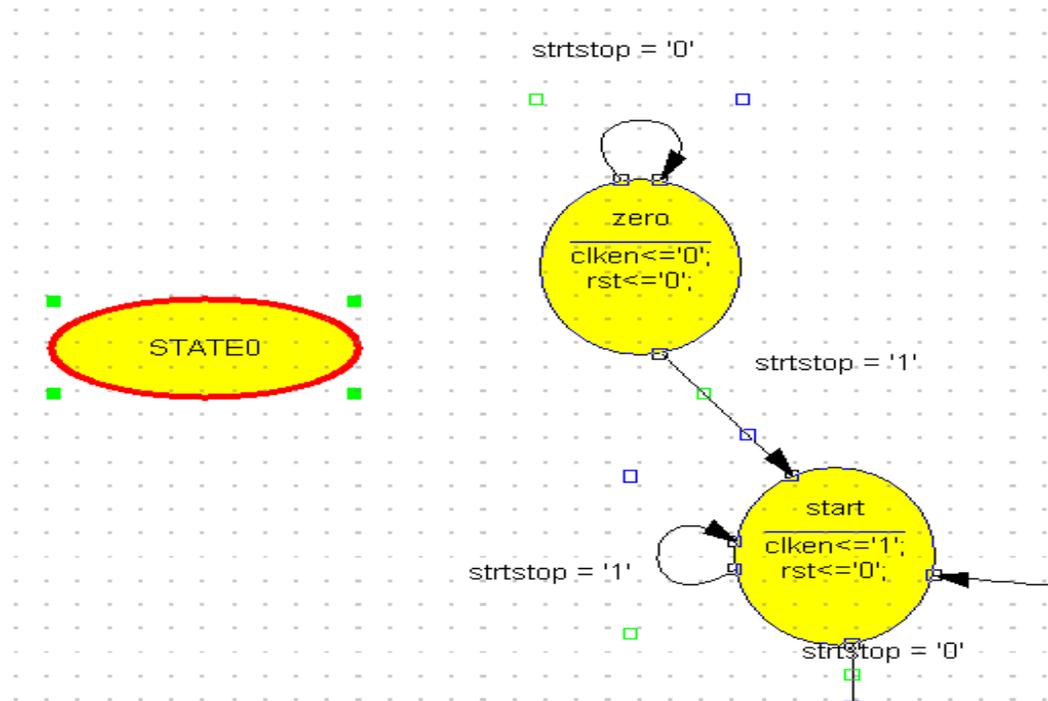

Figure 3-21: Adding the CLEAR State
2. Place the new state on the left-hand side of the diagram as shown in Figure 3-21. Click the mouse to place the state bubble.